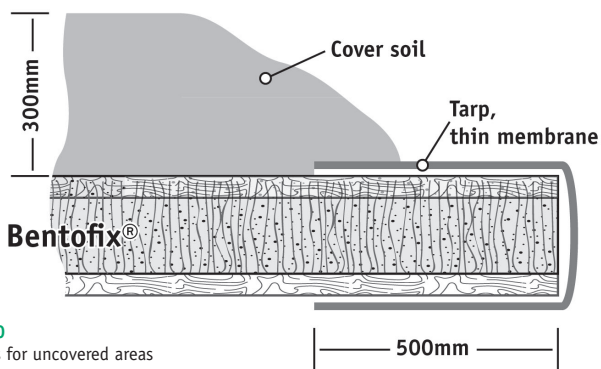

Fig. 10
16.12 Only as much Bentofix® GCL as can be covered by the end of the day should be deployed, or such amount that can be covered in a reasonably short time in the event of precipitation. Uncovered overlap edges should be protected overnight with a plastic membrane (fig. 10) to prevent bentonite hydration. The edges of exposed sheets should be weighted down with sandbags or equivalent ballast, which does not cause any damage to the GCL, to prevent uplift in the event of strong winds.